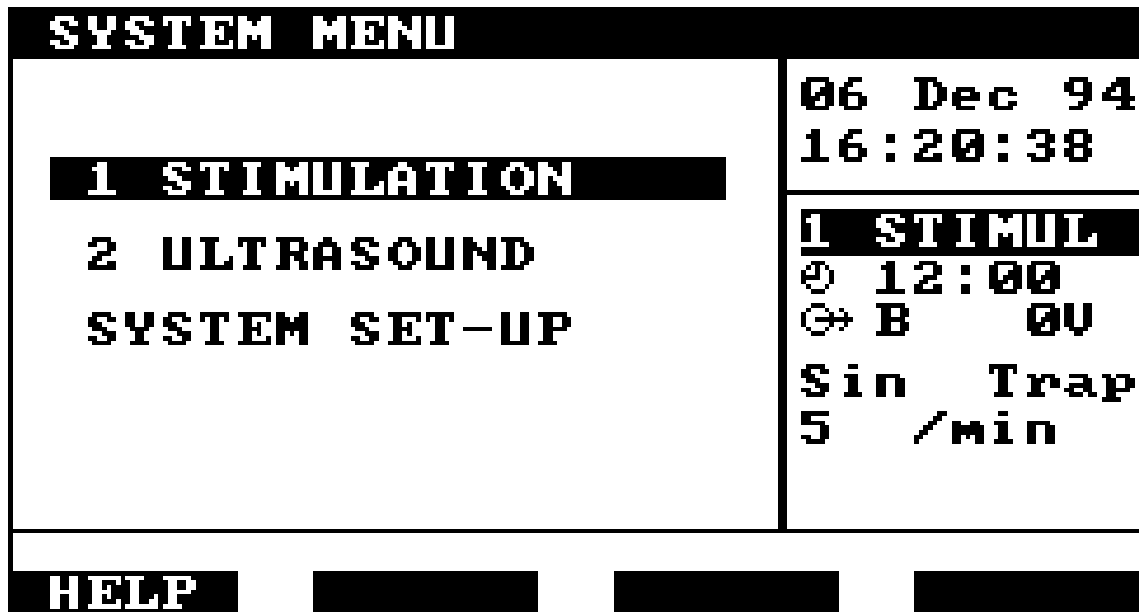

Figure 35 - Stimulation Module as inset screen
15. **F3 - SYSTEM:** Pressing F3 - SYSTEM returns the user back to the System Menu, but without stopping the Stimulation program running. This enables the user to run another application, for example, an Ultrasound program for combination therapy. When F3 - SYSTEM is selected the Stimulation set-up is shown as an inset screen to the right of the display (see figure 35).